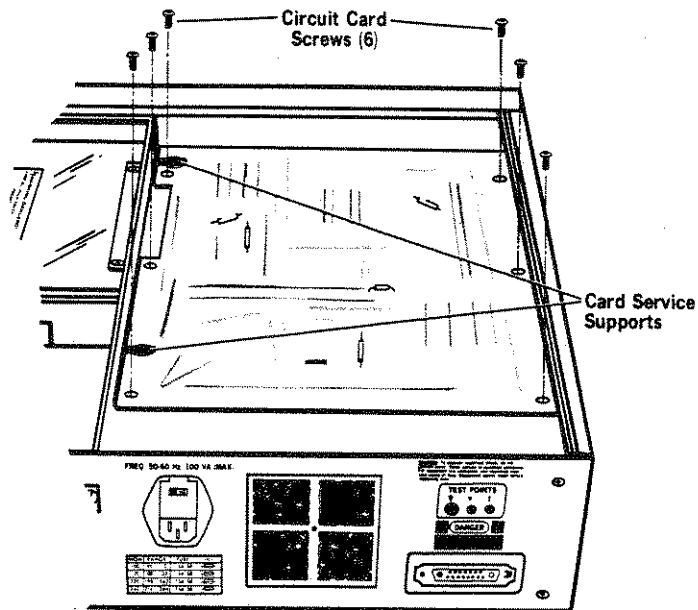

Figure 7-12. Removing the Low Voltage Circuit Assembly Screws
STEP 5. Remove the 6 screws that secure the Low Voltage circuit assembly. Refer to Figure 7-12.